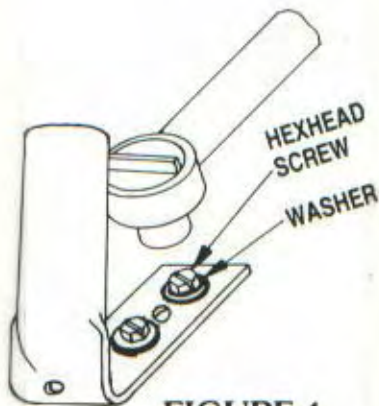

FIGURE 4
C. Attach each screw with a ratchet wrench and a 3/8" socket or slotted screwdriver. See Figure 4.